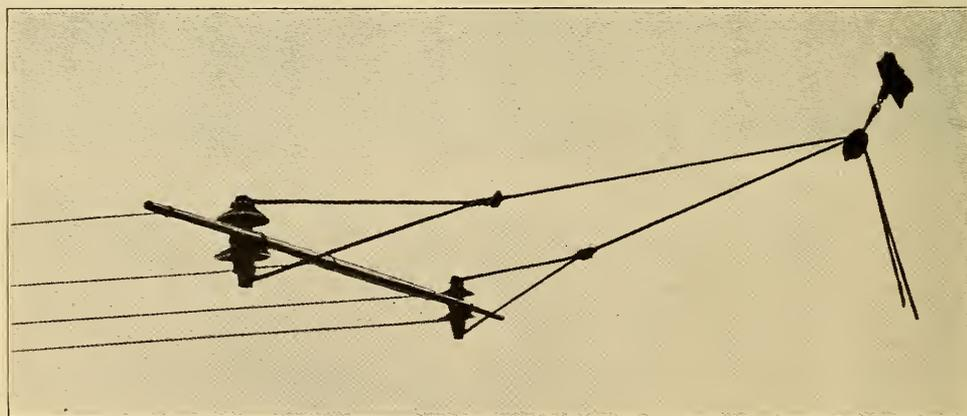

FIG. 25. STANDARD AERIAL SUPPORT.
former and (B) to the receiving end. (C) is a double pole, double throw switch used to throw the sending or receiving end on the aerial at will. The standard method of supporting the aerial wires is shown in Fig. 25 and employs porcelain